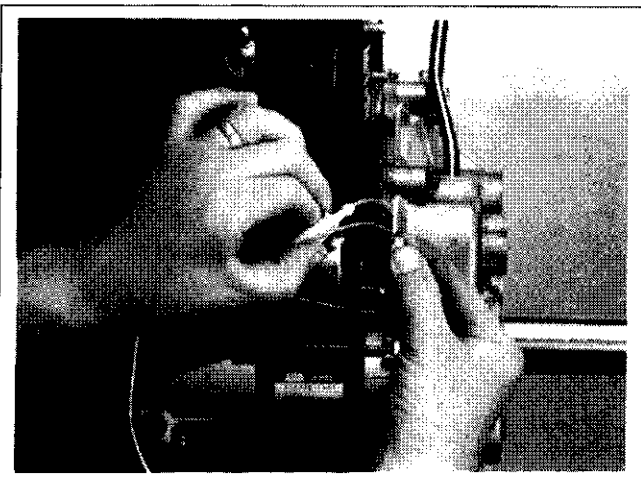

Figure 11-64. Connecting Leads to Starting Motor.
3. On the solenoid shift starter, connect leads to solenoid. See Figure 11-64.